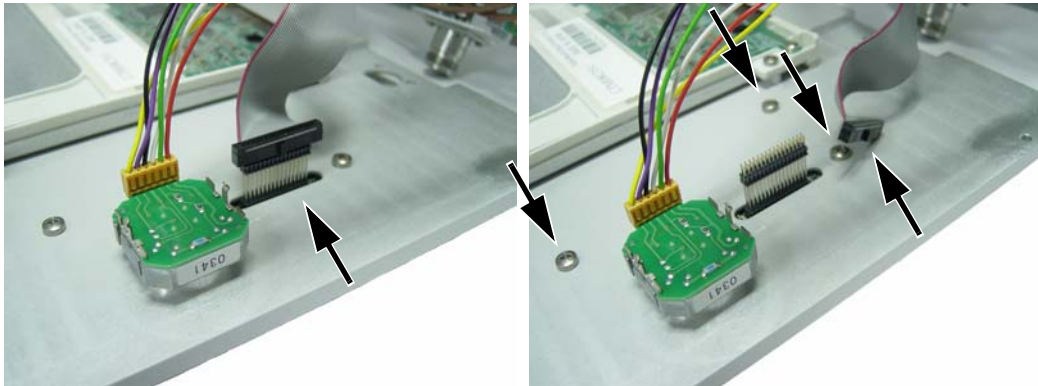

Figure 5-28. Keypad Cable Connector
2. The keypad bezel is held to the case with 3 screws on the inside (visible in Figure 5-28). The rotary knob is not connected to the keypad and need not be disturbed. Using a screwdriver, remove the screws while supporting the metal keypad bezel, and then carefully remove the bezel. This exposes the keypad rubber membrane.